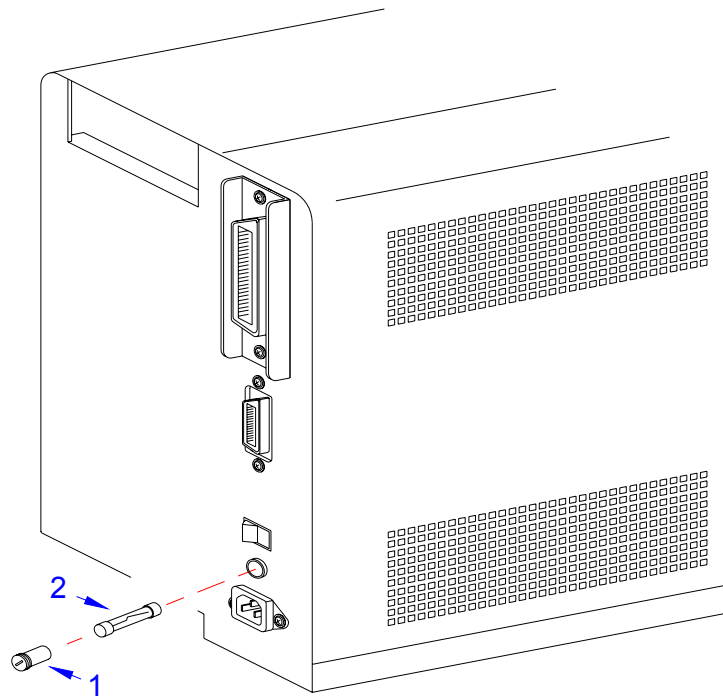

Figure 6-2, Fuse Replacement
- 2 Unscrew fuse cap (1, Figure 6-2) from the fuse connector located on the printer back side.
- 3 Withdraw cap (1) along with fuse (2) and inspect for damage.
- 4 Insert replacement fuse (2) into cap (1) and screw into the fuse connector.